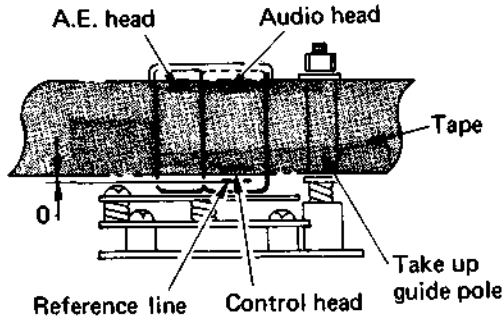

Fig. 5-38 Audio/control head height
3. Carefully and evenly adjust screws (A), (B) and © to align the audio/control head height with the tape as shown in Fig. 5-38.